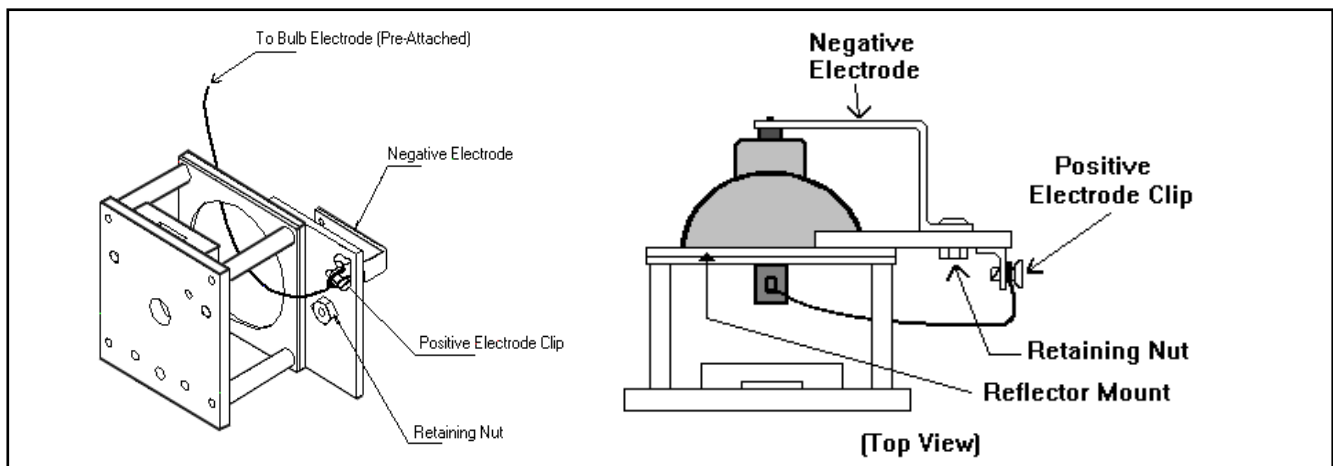

Figure 1.1
5. Loosen the retaining nut (see Figure 1.1) and rotate the electrode to one side such that the lamp/reflector assembly can be removed from mount. Remove the lamp/reflector assembly.
6. Install the new lamp/reflector assembly into the mount and move the negative electrode (see Figure 1.1) into position. Tighten the screw. Do not bend the electrode to install the new lamp/reflector assembly.
7. Attach the electrode wire to the positive electrode clip (see Figure 1.1).